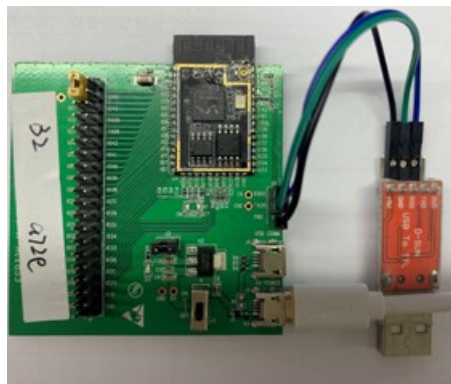

Figure 2-1. Testing Environment Setup
1. Connect ESP32-S2-MINI-1, ESP32-S2-MINI-1U, and the RF testing board, as Figure 2-1 shows.